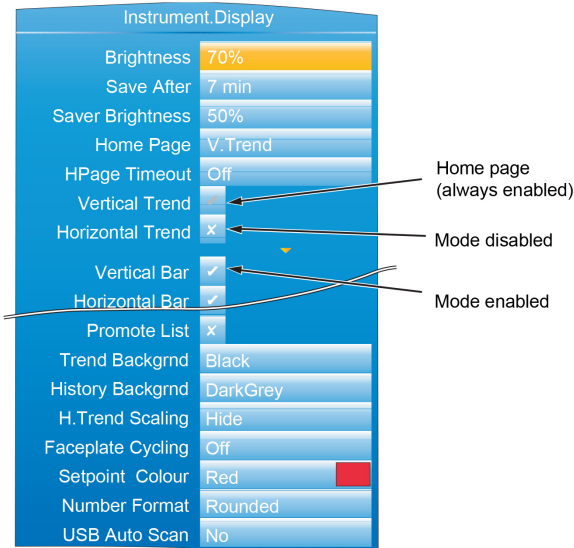

Figure 4.1.3 Display menu (expanded to show all fields)
- Home page** Allows any display mode to be chosen as the 'Home' page. This is the page that the recorder displays at power up, and also the page displayed when the 'Home' key is selected from the top level menu (Section 3.3). The selected display mode (vertical trend in figure 4.1.3) is always enabled in the following display mode enable fields (its 'tick' is greyed out and cannot be edited). See Section 3.4 for a description of the available modes.